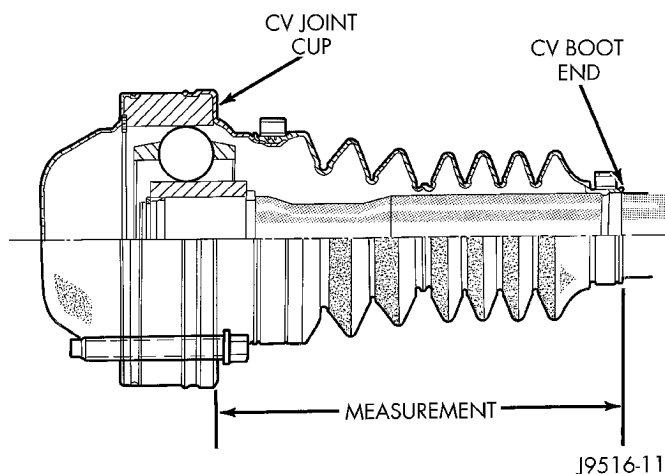

Fig. 34 Measurement
(1) Place vehicle on floor or drive-on hoist with full weight of vehicle on suspension.
(2) Measure the distance from the face of the CV joint cup to the end of the CV joint boot (Fig. 34).